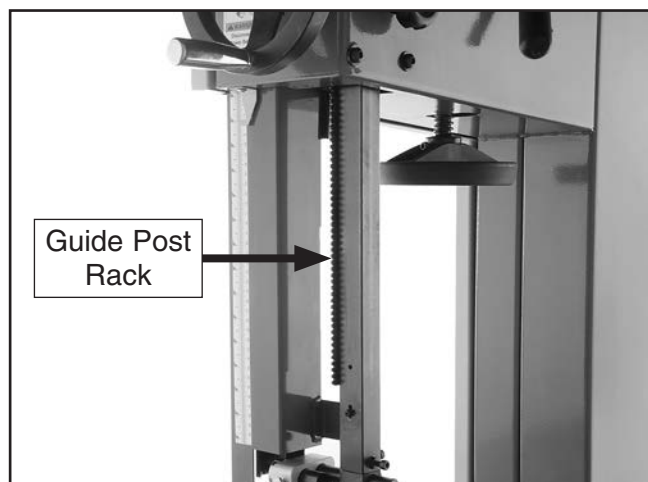

Figure 71. Example of rack lubrication location.
3. Wipe off any existing grease and sawdust buildup on the rack (see **Figure 71**).